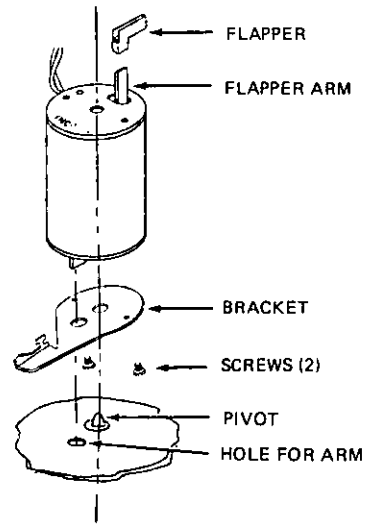

Figure 9
10. Remove two screws holding motor bracket to bottom of motor. See Figure 9.